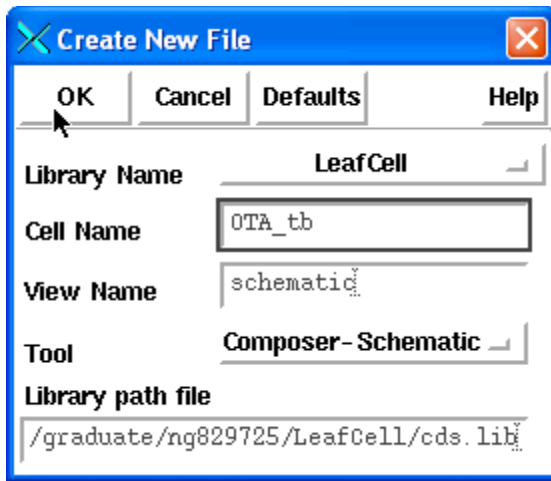

Figure 139: Creating OTA_tb.
7. Create a new cell view for the test bench, named OTA_tb (Figure 139):